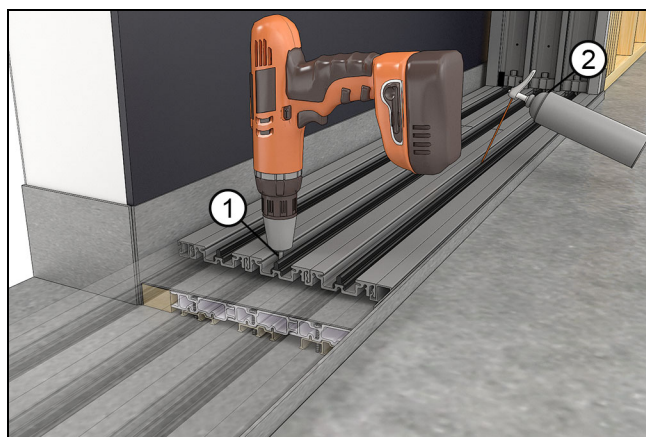

Figure 59 Drill to the sill slope and blow out with compressed air.
6. Position the frame to the correct depth, inject sealant and install an anchor screw in the sill near the pocket side jamb. See Figure 59.